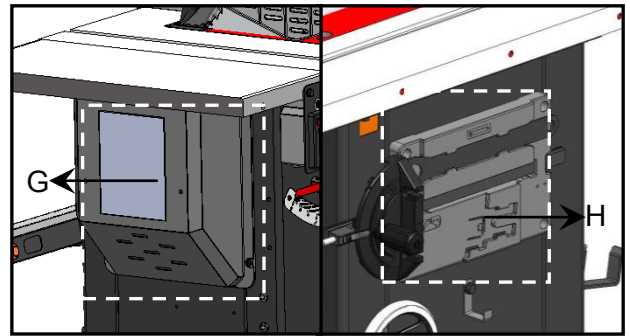
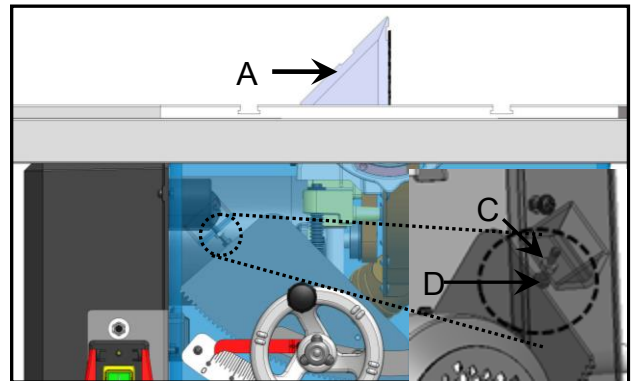
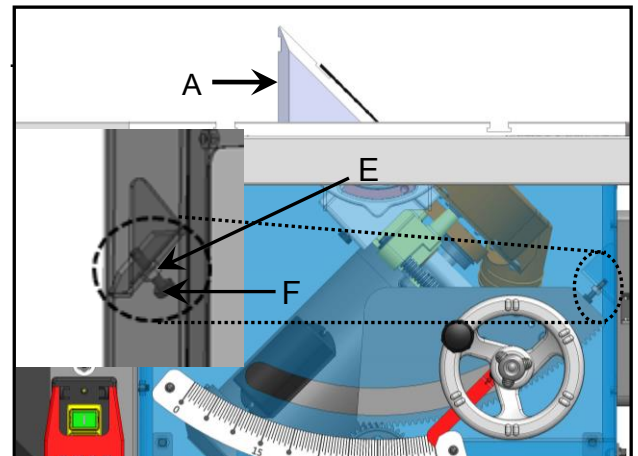
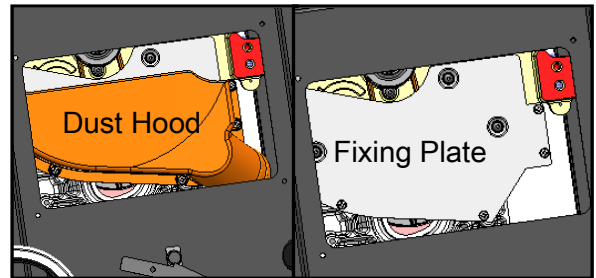

Fig. 25
Fig. 26
Fig. 27
Fig. 32
If the blade 90° angle is incorrect, remove the motor cover G Fig.25 by phillips screw driver then loosen the Hex. Nut C, Fig.26 then turn the 90° stop screw D, Fig. 26 under the table by Hex. wrench. Turn the hand wheel until the blade is at 90° to the table surface. Then re-tighten the 90° stop screw & Hex. nut until slight resistance is felt. Do not over tighten stop screw.
Verify the 45° setting by tilting the blade as far as possible to the left and using the square, check the angle and if needed adjust as for the 90° stop, this time remove the storage box H, Fig.27 by phillips screw driver then loosen the Hex. Nut E, Fig.27 then turn the 45° stop screw F, Fig.27 under the table by Hex. wrench. Turn the hand wheel until the blade is at 45° to the table surface. Then re-tighten the 45° stop screw & Hex. nut until slight resistance is felt. Do not over tighten stop screw.
3. Remove the motor cover G storage box H, Fig.27
4. Remover storage box H, Fig.27 then take off the dust hood by phillips screw driver and fixing plate by M5 Hex. Wrench on the right side, Fig.32
3. Remove the motor cover G, Fig.25
4. Remover storage box H, Fig.25 then take off the dust hood by Phillips screw driver and fixing plate by M5 Hex. Wrench on the right side, Fig.32